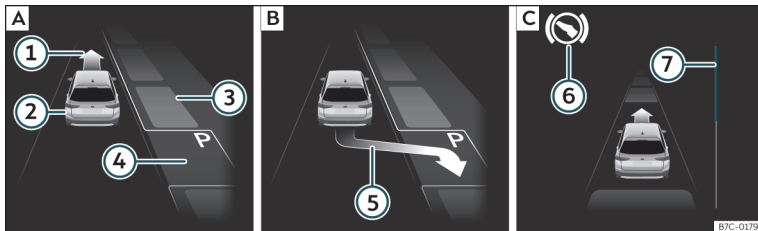
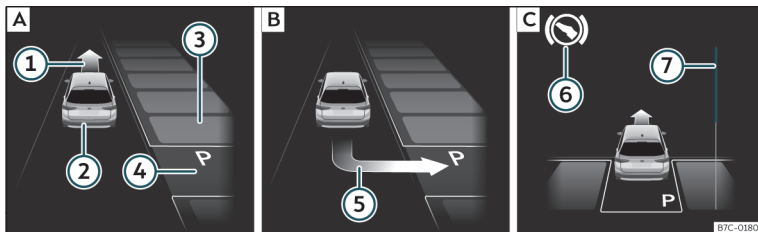

Fig. 229 On the instrument panel display: perpendicular parking. **[A]** Finding a parking space. **[B]** Parking position. **[C]** Manoeuvring.
Fig. 230 On the instrument panel display: parallel parking. **[A]** Finding a parking space. **[B]** Parking position. **[C]** Manoeuvring.
Key to **Fig. 229** and **Fig. 230**:
>>> **Fig. 229** ⑦ and >>> **Fig. 230** ⑦ on the screen of the instrument panel displays the relative distance to be covered. The greater the distance, the fuller the progress bar. When driving forward, the content of the progress bar decreases upwards, and when reversing, it decreases downwards.
2.	Look at the display on the instrument panel to see if the space has been detected as "appropriate" and if the correct position for parking has been reached »» Fig. 229 [B] or »» Fig. 230 [B]. The space is considered "appropriate" if the display on the instrument panel shows the message to park (5).
6.	Reverse until the ParkPilot continuous signal is heard. OR: reverse until the instrument panel displays the message to go forwards »» Fig. 229 [C] or »» Fig. 230 [C]. OR: reverse until the instrument panel displays the message Park Assist finished . The progress bar (7) indicates the distance to cover »» page 278.
7.	Press down the brake pedal until the Park Assist system has finished turning the steering wheel. OR: until the (S) symbol on the instrument panel display switches off.
9.	Go forward until the ParkPilot continuous signal is heard. OR: go forward until the instrument panel display shows the message to reverse. The Park Assist system steers the vehicle forward and back until it centres it in the space »» Fig. 229 [C] or »» Fig. 230 [C].